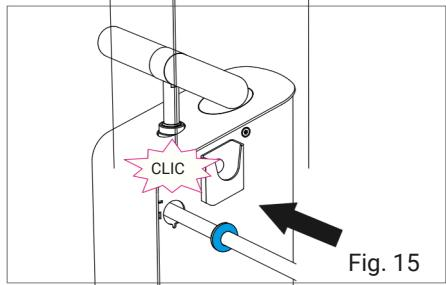

Fig. 15
- 3 Now prepare the new hose by putting the sealing grommet over the hose. You can now insert the new hose. Insert the hose into the empty opening. Push the hose into the fitting with slight pressure. You will hear a click when the hose engages in the fitting (Fig. 15).